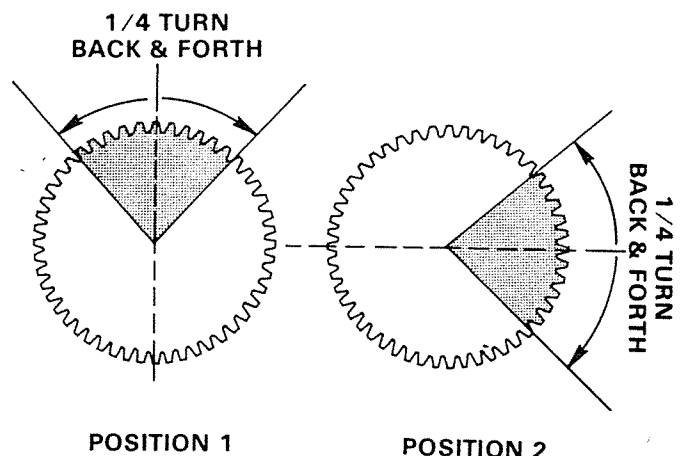

Figure 8. Lapping Flywheel.
4. Rotate flywheel 90° and repeat above operation. Figure 8.